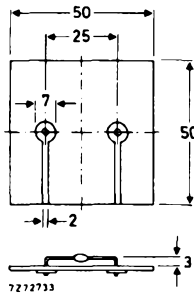

Fig. 2 Mounted on a printed-circuit board.
| Average forward current (averaged over any 20 ms period)$T_{tp} = 55\text{ }^\circ\text{C}$ ; lead length 10 mm$T_{amb} = 55\text{ }^\circ\text{C}$ ; Fig. 2 | $I_{F(AV)}$ | max. 1,5                      | A                |
2. Thermal resistance from junction to ambient when mounted on a 1,5 mm thick epoxy-glass printed-circuit board; Cu-thickness  $\geq 40\text{ }\mu\text{m}$ ; Fig. 2